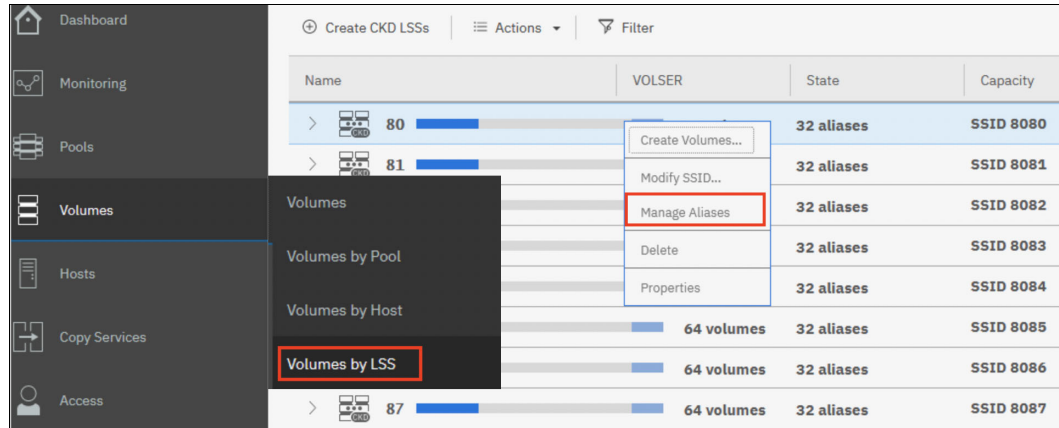

Figure 9-74 Creating aliases for the LSS
2. Select the LSS for which to create aliases and right-click the LSS, as shown in Figure 9-74 on page 281.